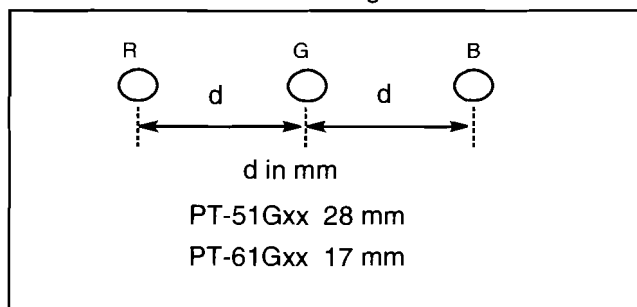

Figure 26. H. Phase Adjustment.
9. Using the red deflection coil, adjust until the red monoscope pattern center is at the appropriate distance as indicated on Figure 26
11. Using the blue deflection coil adjust until the blue pattern center is at the correct distance right from the center of the green cross hatch (Figure 26)